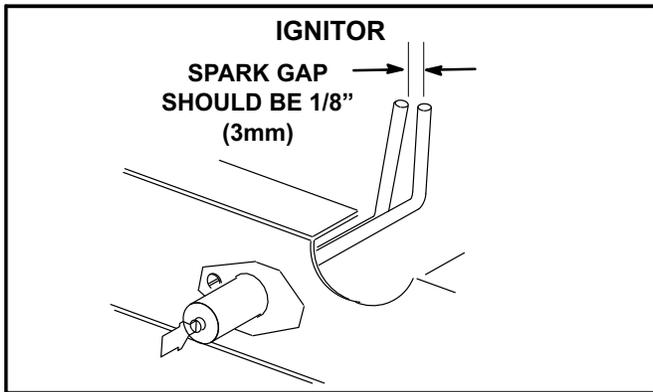

FIGURE 17
- 4- Locate the ignitor under the left burners. Check ignitor spark gap with appropriately sized twist drills or feeler gauges. See figure 17.